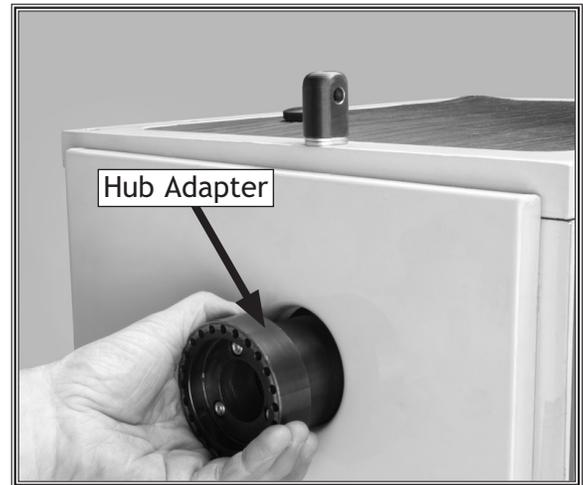

Figure 5. Threading hub adapter onto spindle.
2. Thread the hub adapter completely into the outboard end of the spindle and tighten securely (see **Figure 5**).